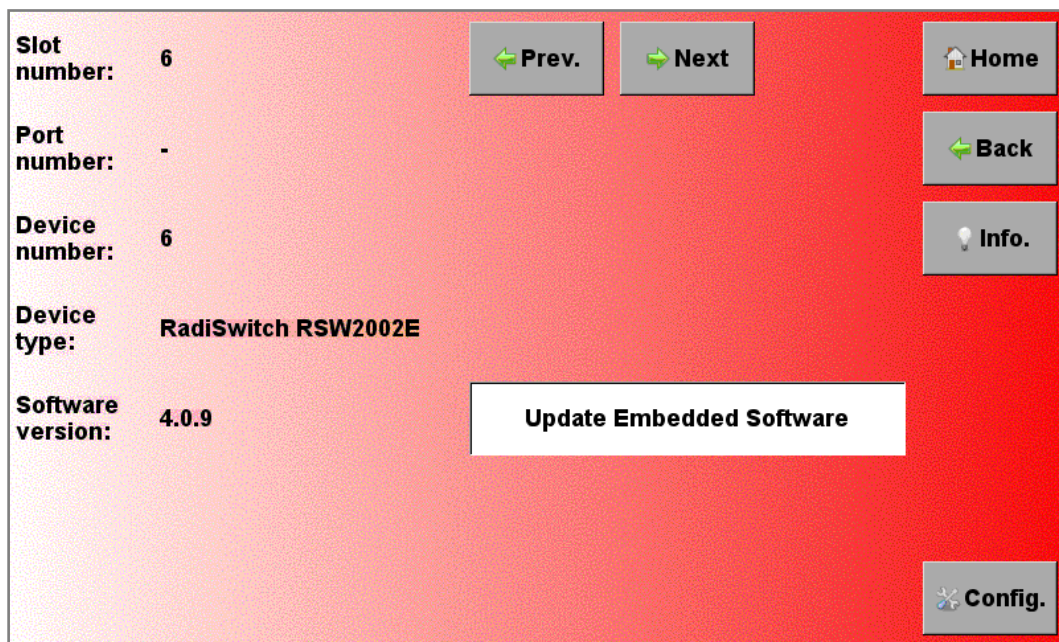
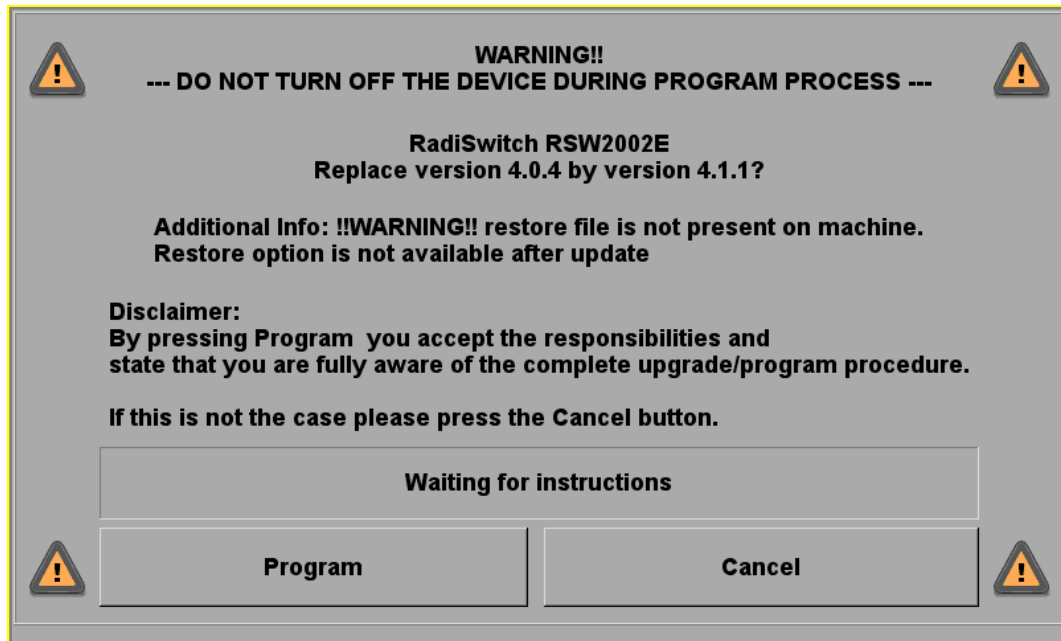

Figure 7: 'Update Embedded Software' button in the slot configuration screen
Figure 8: Embedded software update screen
2. Press 'Update Embedded Software' to open the software update screen (see Figure 7). A screen dedicated to the software update will appear (see Figure 8).